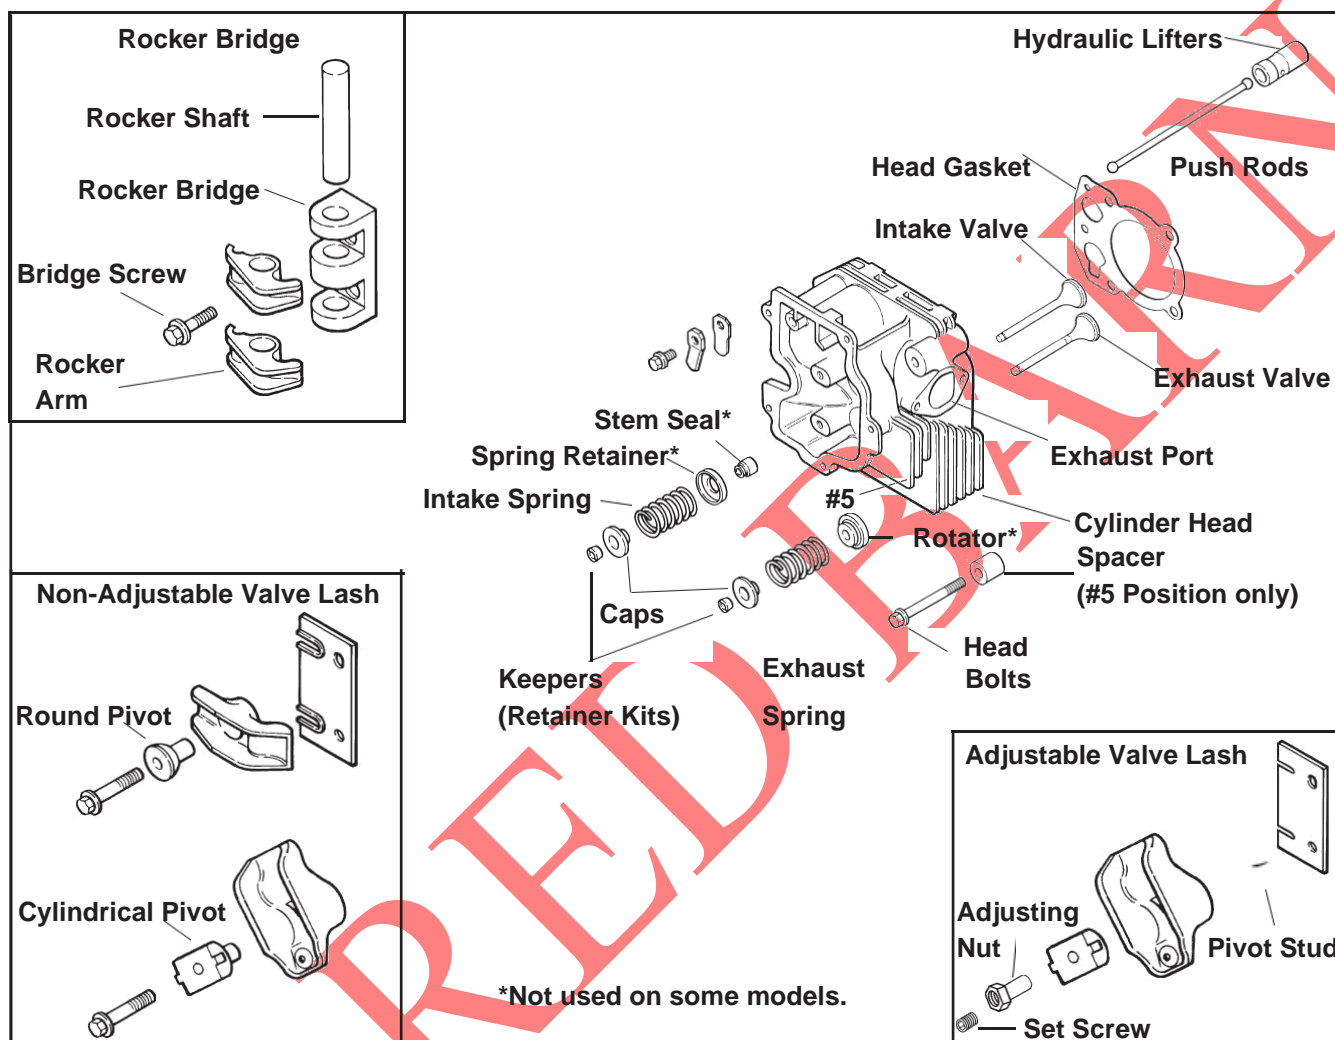

Figure 11-37. Cylinder Head Valve Train Differences.
Refer to Figure 11-37 for cylinder head differences. Assemble the components accordingly, based on head configuration involved.
Heads with Separate Pivots/Rocker Arms—Figure 11-37
4. **Rocker Bridge Heads—Figure 11-37**
Heads with Separate Pivots/Rocker Arms– Figure 11-37